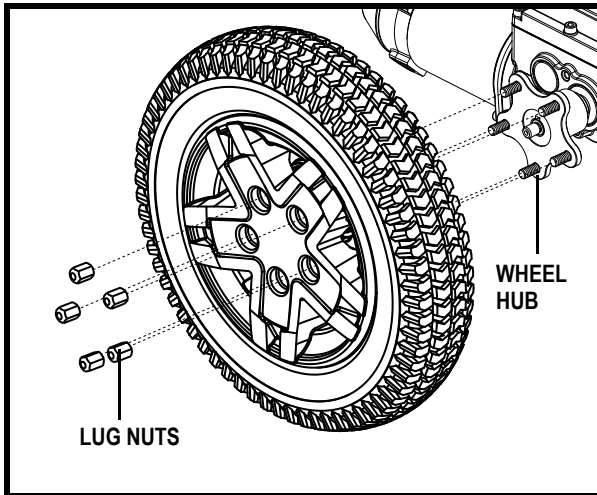

Figure 23. Quantum Q4 Drive Wheel
4. Remove the (5) lug nuts from the wheel hub. See figure 23.